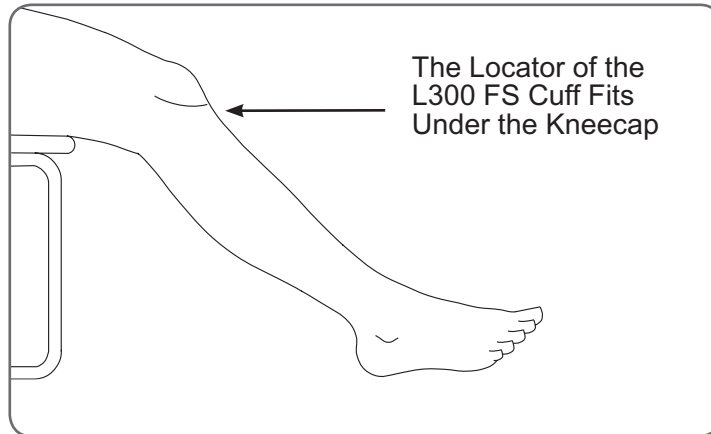

Figure 22: Recommended knee angle for positioning the L300 FS Cuff.
1. While seated, slightly straighten your leg as shown in Figure 22. The outline of your kneecap should be clearly defined. (Place your foot on a footrest, if necessary.)